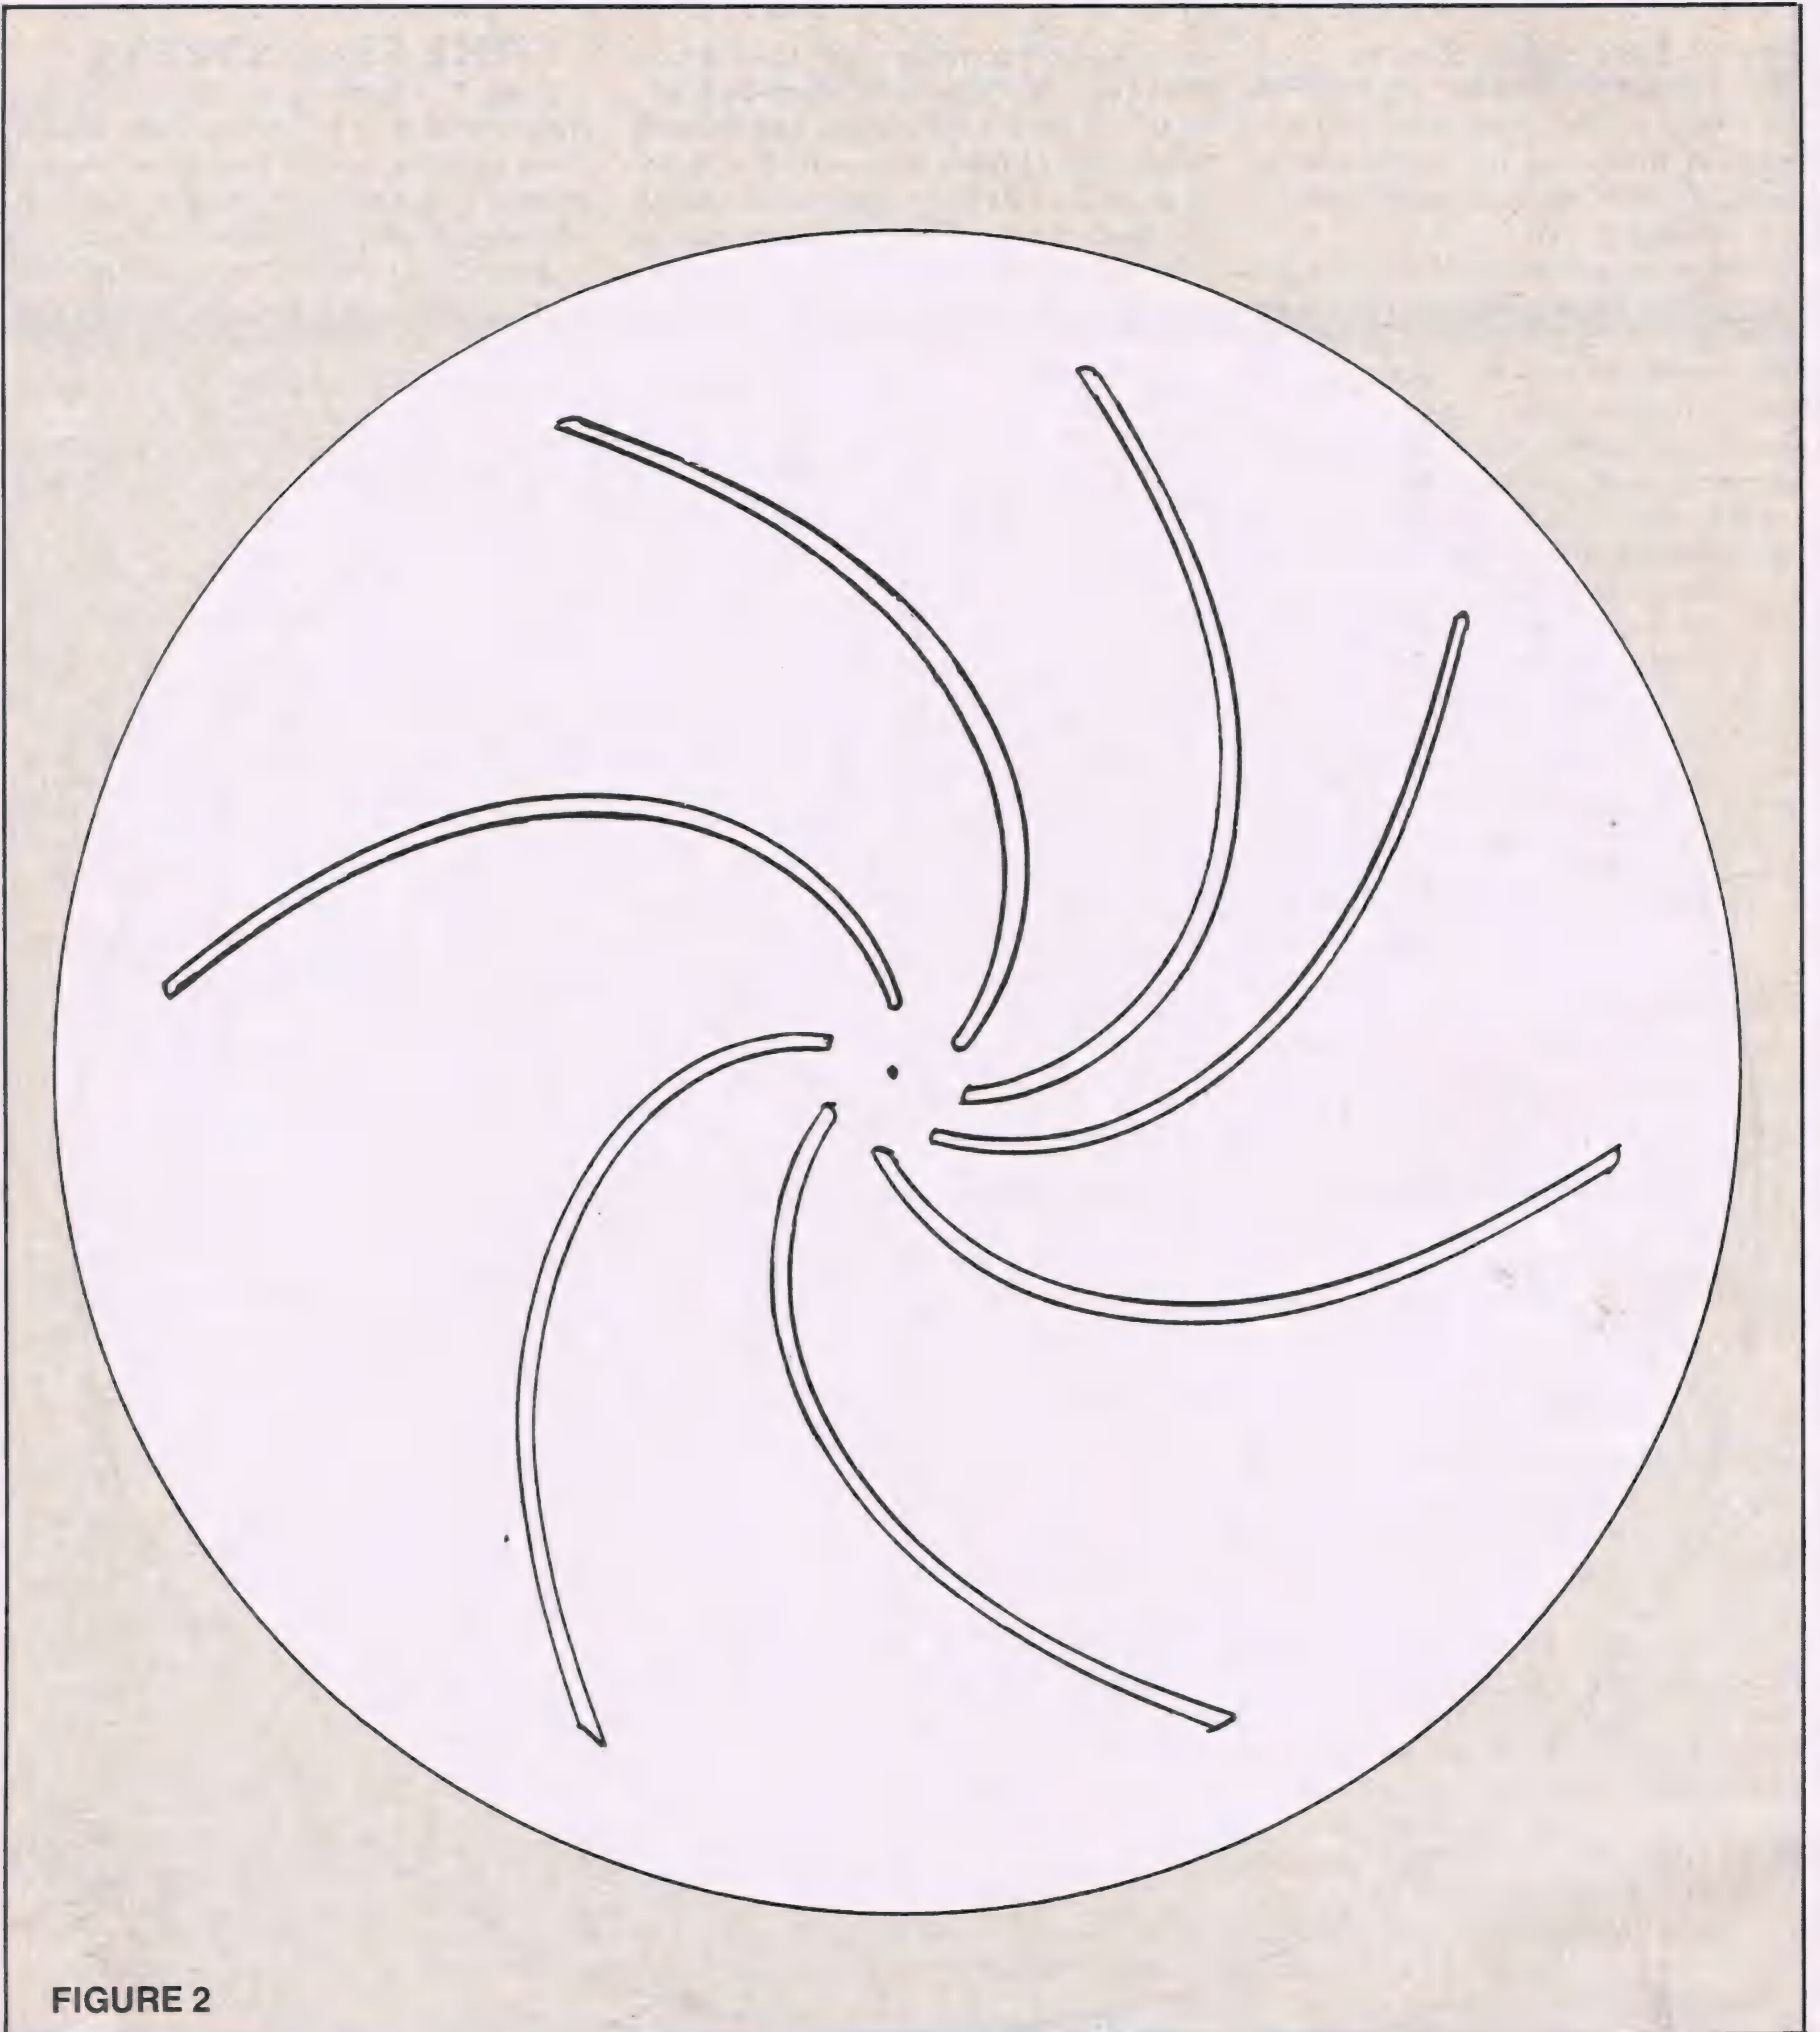

FIGURE 2
Step 2: Cut out the inner slots in both figures 1 and 2. Use an art knife to assure a clean cut line for figure 1. Cut out the figure 2 disk, but *do not cut out the figure 1 disk drawing.*
1 sheet. Place the figure 2 disk against 1 and push the fastener shank through the figure 2 center hole. Spread the fastener shank to firmly anchor the two sheets together. Work the figure 2 disk back and forth to enlarge the centerhole slightly to permit the disk to rotate freely.
serves as the support for the figure 2 disk. The side opposite the disk is the side to be photographed. The entire sheet must be backlit for proper "star" exposure. However, first you must make an additional cut on the figure 1 sheet. Cut a portion out of the Figure 1 sheet at the line indicated by the dashed line in the original figure 1 drawing. Use scissors and make sure you don't cut the figure 2 disk accidentally. This will give you a slight edge of the disk beyond the sheet so you can rotate the disk with your fingertips.